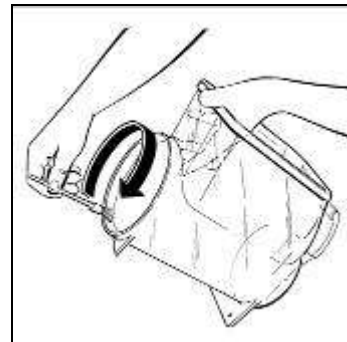

Fig. 24
- Moisten with water the rear of the tank where it meets with the seal to facilitate the reassembling procedures (see fig.24);